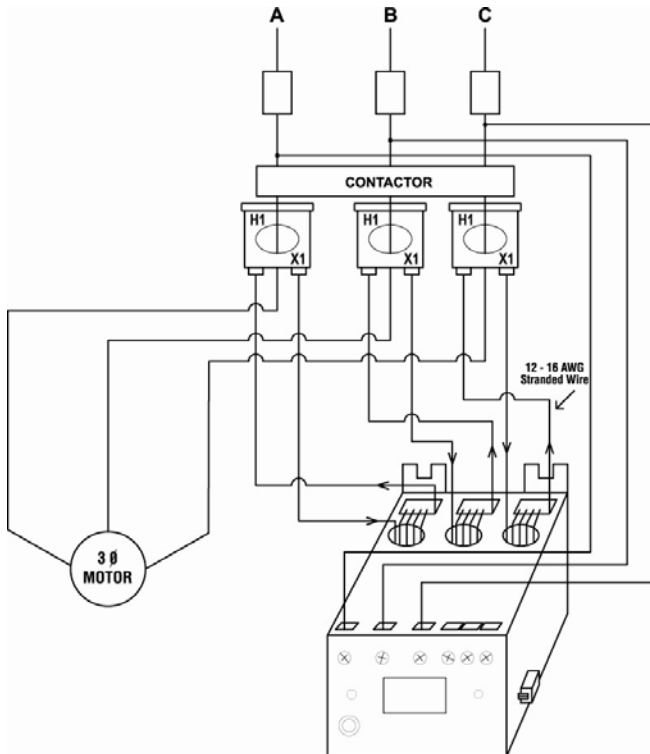

Figure 3: Typical Wiring Using External CTs1
- c) For amperages greater than 90 amps, external CTs (current transformers) are required. Littelfuse recommends using CTs with terminal connections for easier installation. All CT secondaries must make five passes through the round holes on the MotorSaver®Plus. See Figure 3 for a typical wiring diagram using external CTs.